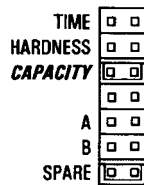

Figure 9
Move the jumper to the set of pins next to the word **CAPACITY** (Figure 9). Press the black TIME SET button until the correct capacity value is displayed. The capacity range is 1 to 99 kilograins. Refer to the Suggested Salt Dial Settings table (8).